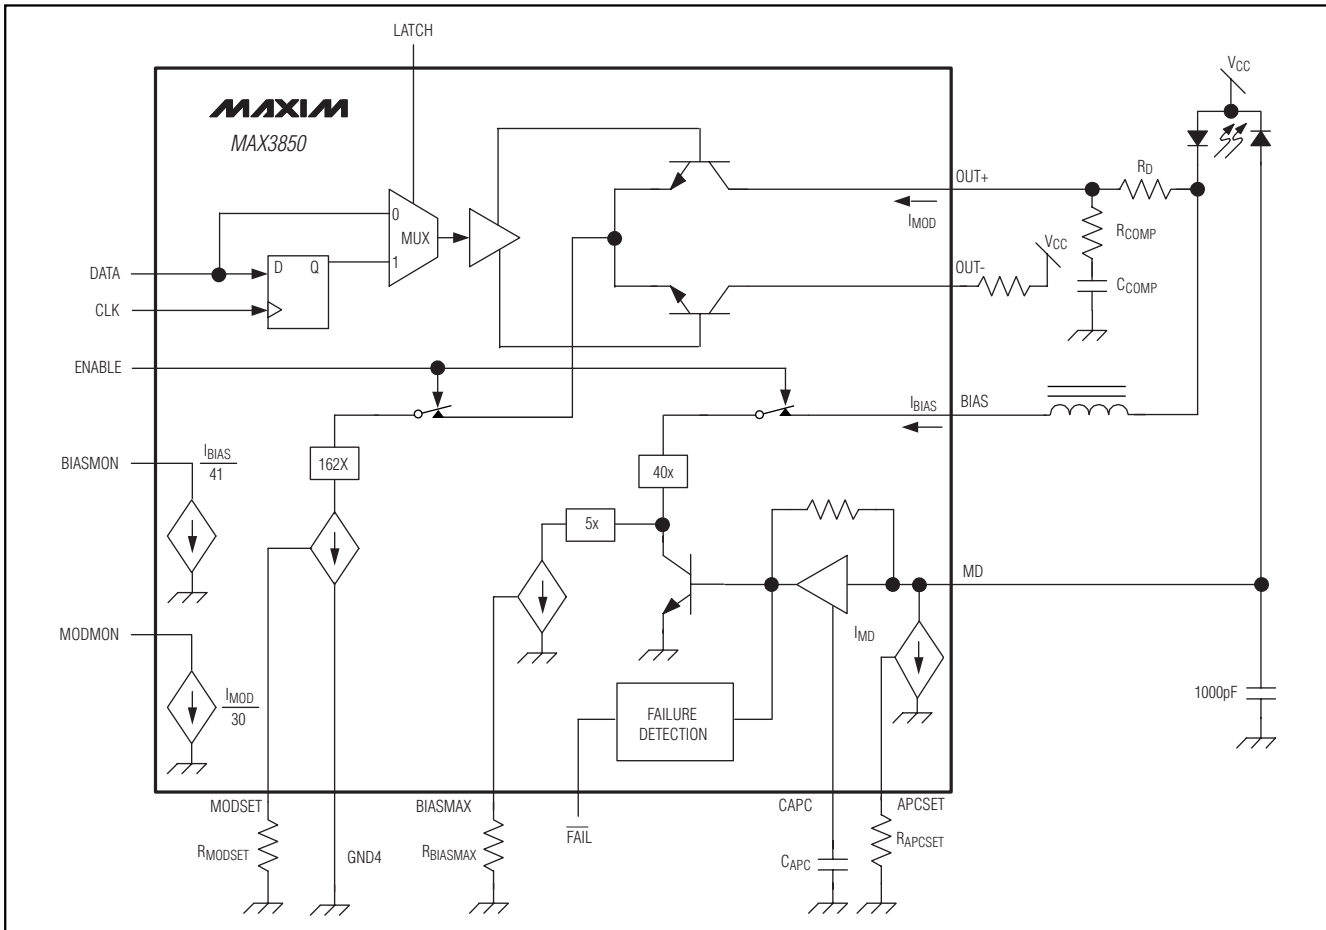

Figure 4. Functional Diagram
To minimize optical output aberrations caused by signal reflections at the electrical interface to the laser diode, a series damping resistor (RD) is required (Figure 4). Additionally, the MAX3850 outputs are optimized for a 15Ω load. Therefore, the series combination of RD and RL (where RL represents the laser-diode resistance) should equal 15Ω. Typical values for RD are 8Ω to 13Ω. For best performance, place a bypass capacitor (0.01μF typ) as close as possible to the anode of the laser diode. An RC shunt network between the laser cathode and ground minimizes optical output aberrations. Starting values for most coaxial lasers are RCOMP = 50Ω in series with CCOMP = 8.0pF. Adjust these values experimentally until the optical output waveform is optimized. (Refer to Maxim Application Note HFAN 3.0, *Interfacing Maxim's Laser Drivers with Laser Diodes*.)